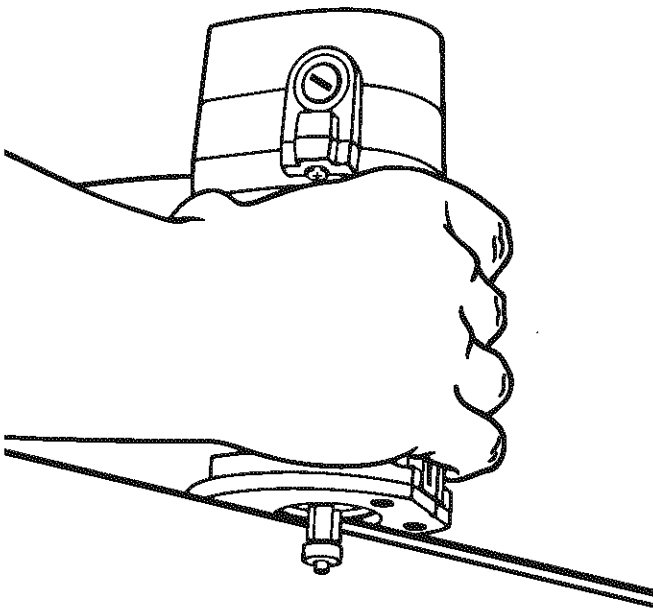

Fig. 4
Your trimmer is turned **on** by means of a slide switch located on top of the tool. Make a few cuts on a piece of scrap material to determine the desired depth or shape of cut. When cutting, fit the base of your trimmer over the work surface and firmly hold the body of your trimmer with your hand. Make sure the trimmer is running at full speed. For best results, move your trimmer from left to right, against the turning direction of the trimmer cutter. *See Figure 4.* Be sure not to move trimmer too rapidly.
*See Figure 4.*